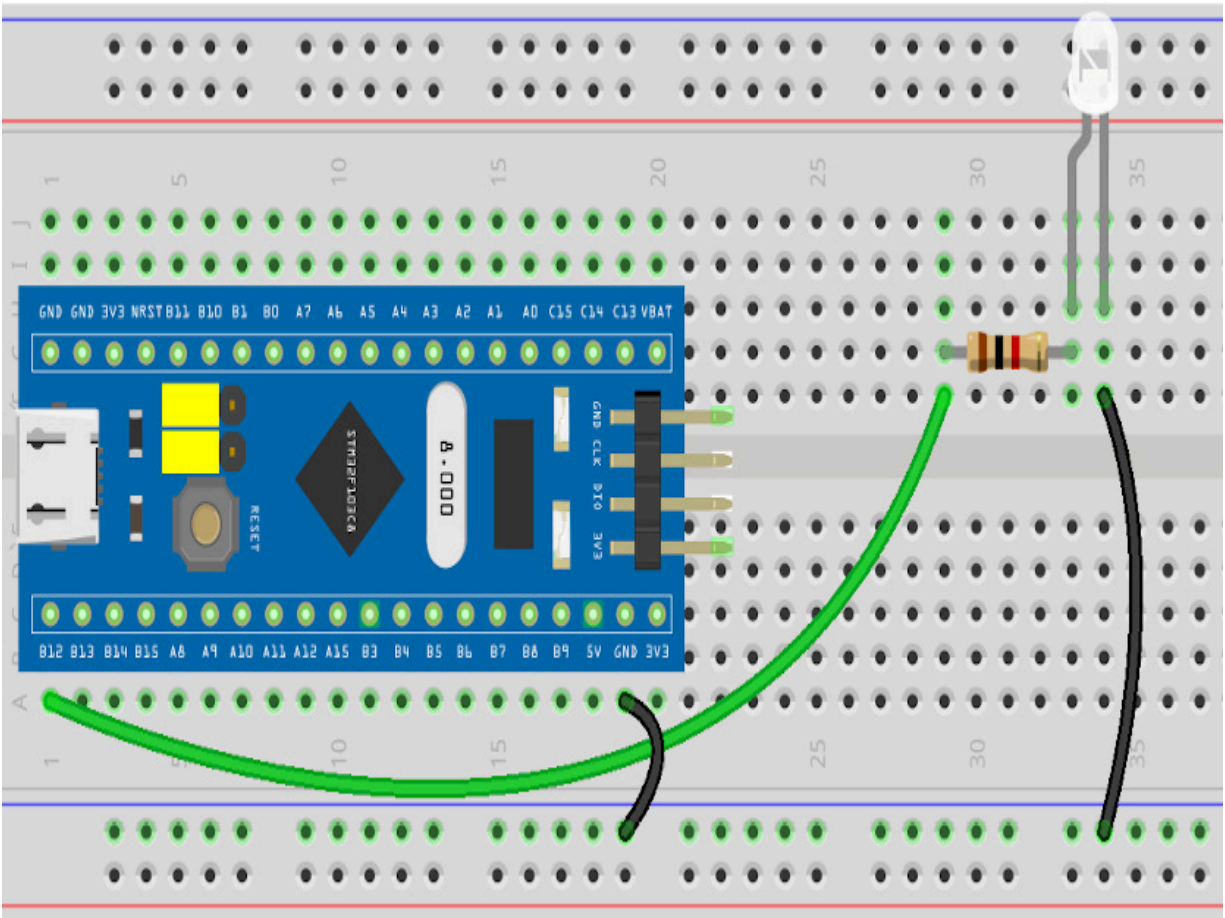

Figure 6.2 – A super-bright LED connected to a Blue Pill's I/O port
*Figure 6.2* shows a Fritzing diagram containing a super-bright LED:
As you can see from *Figure 6.2*, the super-bright LED's anode is connected to a 1 k ohm current-limiting resistor. The resistor is connected to output port B12, providing 3.3 V to it every time a dot or dash from a Morse code character is sent to it. The following are the steps for connecting all the components shown in *Figure 6.2*:
Before we connect everything to a Blue Pill microcontroller board port, we need to know how many amps in the I/O **B12** port are consumed by the LED to see whether it is below the maximum amps that the port can handle. The amps (current) consumed by the LED from *Figure 6.2* is calculated using the following formula: